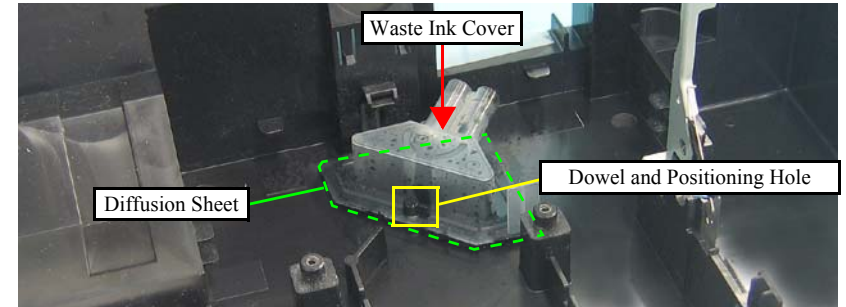

Figure 4-112. Removing the Waste Ink Cover and Diffusion Sheet
- When installing the Waste Ink Cover, be sure to align the dowel (x1) of the Base Frame with the positioning hole (x1) of the Waste Ink Cover as shown in Figure. 4-112. Make sure to confirm the cover is properly secured on the Diffusion Sheet without any gap.